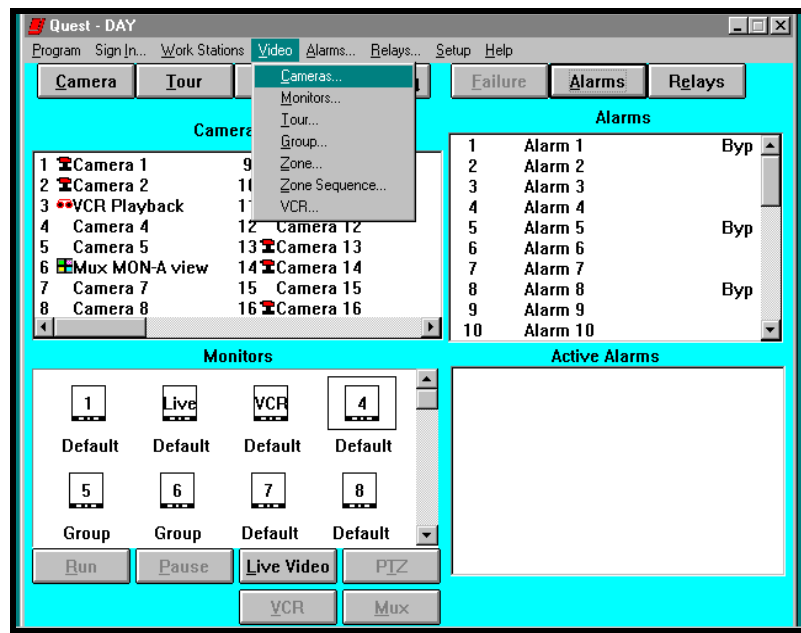

Figure 3-6. Video Pull Down Menu
The Video selection from the menu bar (Figure 3-6) is used to program: (1) Cameras, (2) Monitors, (3) Tours, (4) Groups, (5) Zones, (6) Zone Sequences and (7) VCR.